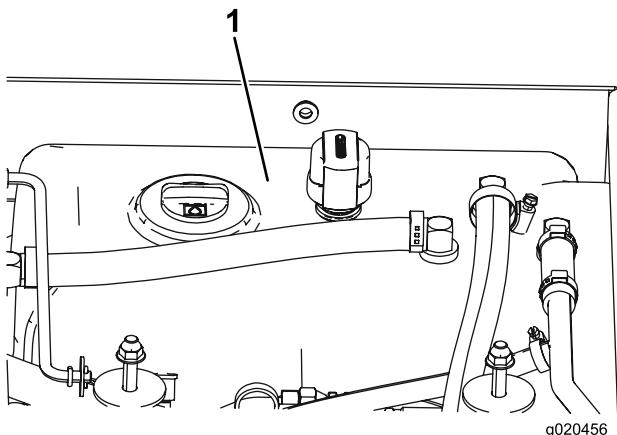

Figure 76
4. Fill the reservoir (Figure 76) with hydraulic fluid; refer to Checking the Hydraulic Fluid \(page 58\).